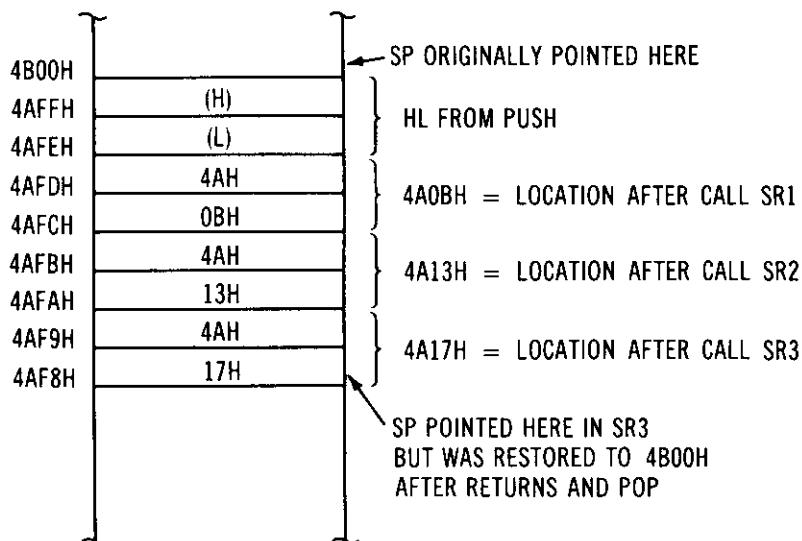

Fig. 6-5. Stack area Example 3.
When PUSHes or POPs are used, two bytes of data are also stored or retrieved in the stack, but the data represents data from cpu registers and not return addresses. When data is PUSHed, the high-order register is stored in (SP)-1 and the low-order register is stored in (SP)-2, in the same order that return addresses are stored (Figure 6-5). A third program following illustrates the storage action when CALLs and PUSHes are intermixed, as they will be in most programs.